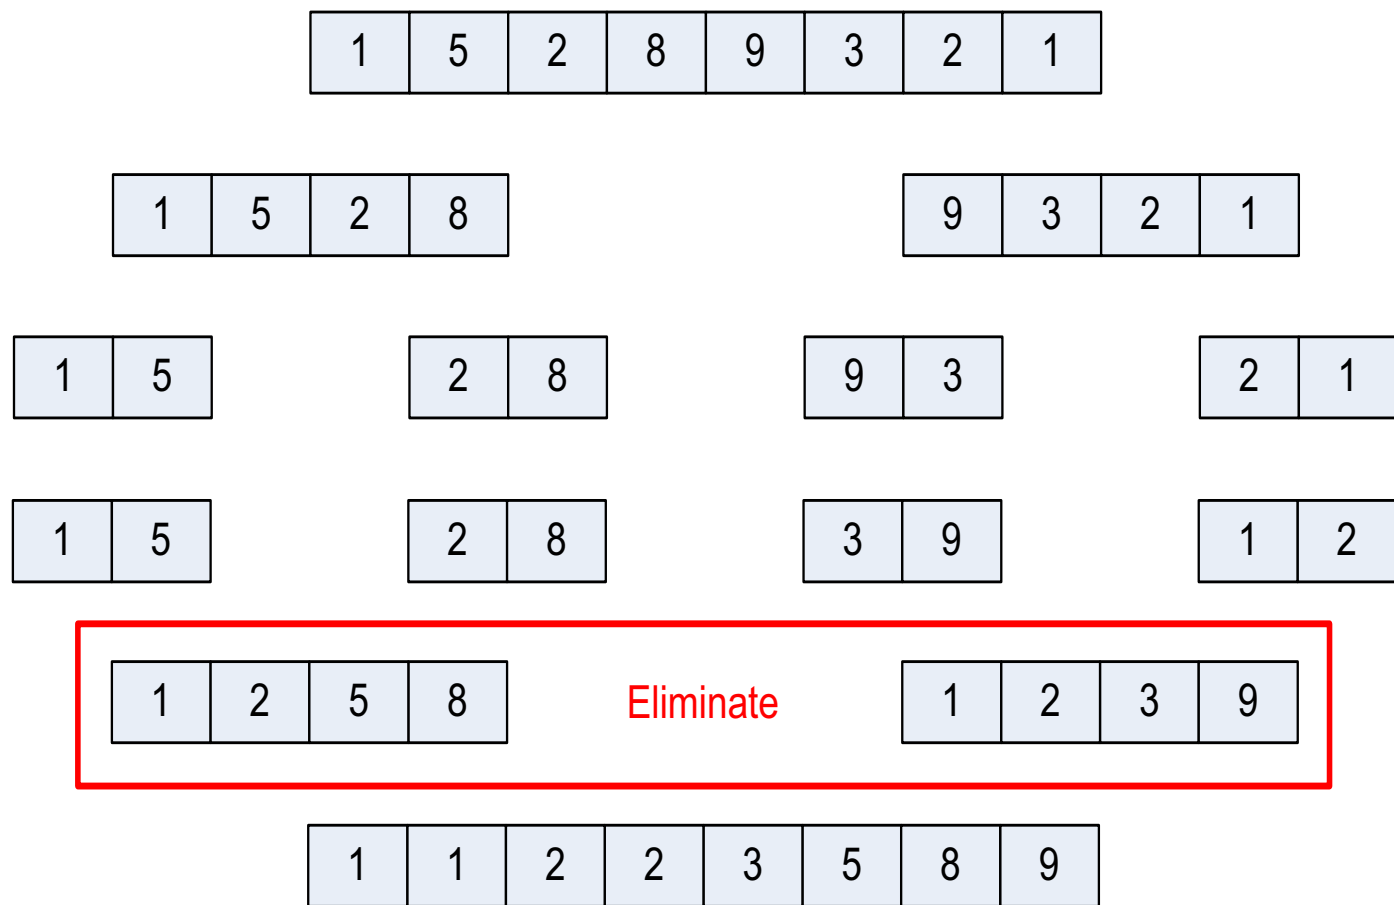

FIGURE 6.4
- Thus, **as each merge stage is completed, the amount of available parallelism halves**. As an alternative approach where N is small, you can simply scan N sets of lists and immediately place the value in the correct output list, skipping any intermediate merge stages as shown in Figure 6.4.
- The issue is that the sort performed at the stage highlighted for elimination in Figure 6.4 is typically done with two threads.